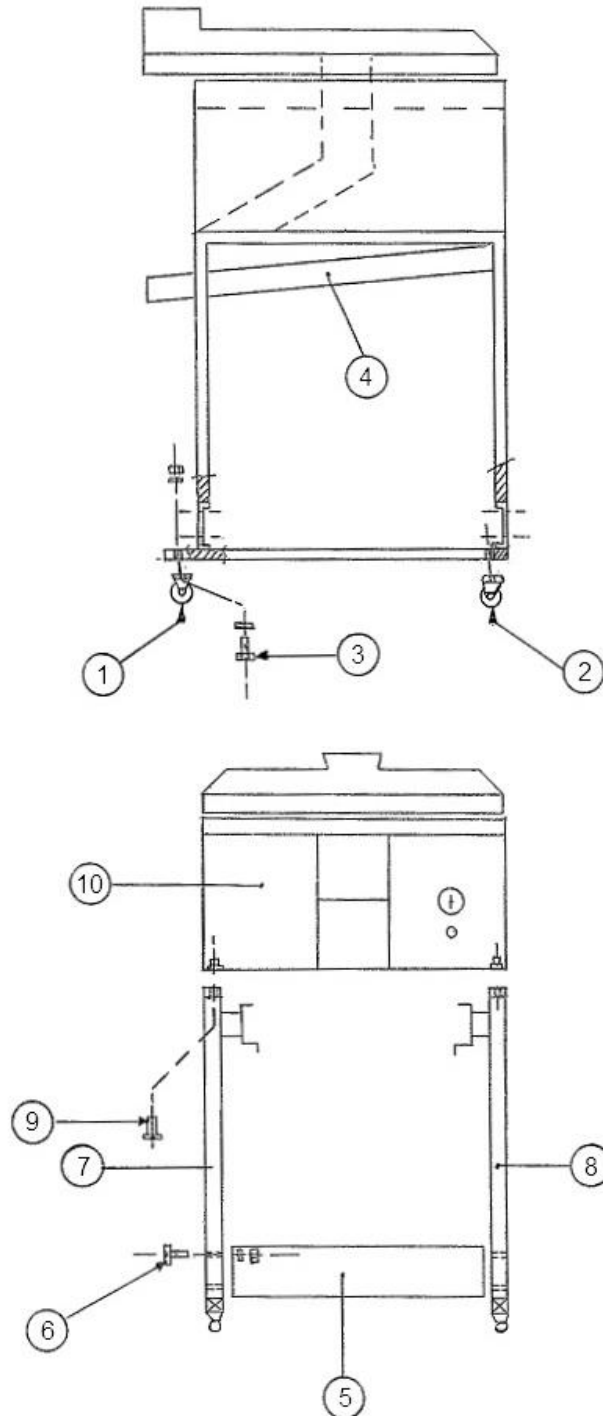

Fig.4.1. Trolley assembly diagram
1. Mount the two swivelling front wheels (Fig. 4.1. num. 1) and the two fixed back wheels (Fig. 4.1. num. 2) fixing them to the crosspieces (Fig. 4.1. n°7 e 8) with the screws supplied (Fig. 4.1. num. 3).
2. Assemble the various pieces of the trolley (Fig. 4.1. n°5,7 e 8) fixing them with the screws supplied
3. Join the trolley to the machine (Fig. 4.1. num. 10) with the screws supplied (Fig. 4.1. num. 9).
4. Insert the draw (Fig. 4.1. num. 4) in the seating provided.